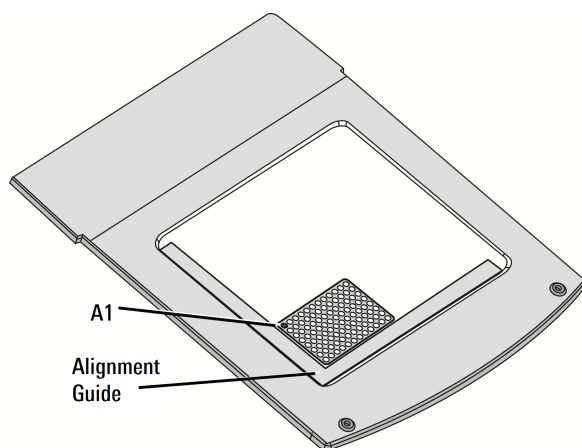

Figure 5-2
2. Place the multiwell plate on the scan surface and slide it into place so that it contacts both the front and left sides of the Plate Alignment Guide. The first well in the first row (A1) should be toward the back and left side of the Plate Alignment Guide as shown (Figure 5-2).